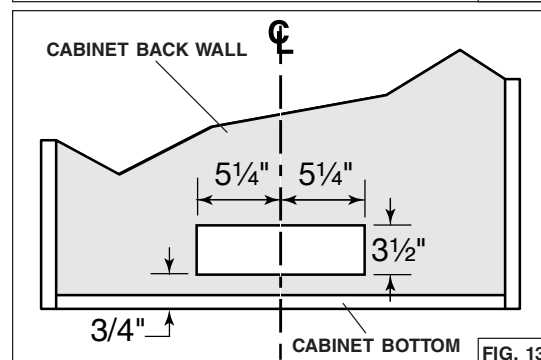

FIG. 13
9. Cut the hole for the horizontal exhaust through the back wall of the cabinet using the dimensions shown. (FIG. 13)